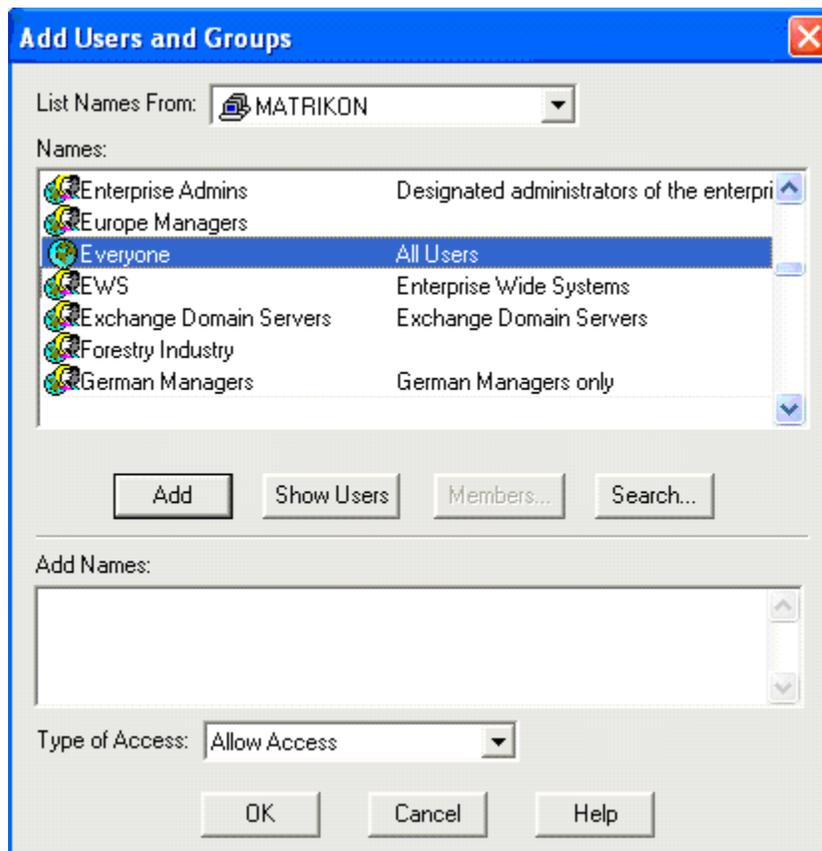

Figure 43 - Add Users and Groups Window
10. The **Add Users and Groups** window (Figure 43) appears.